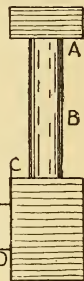
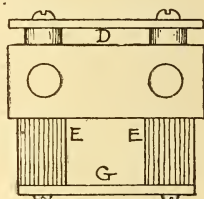
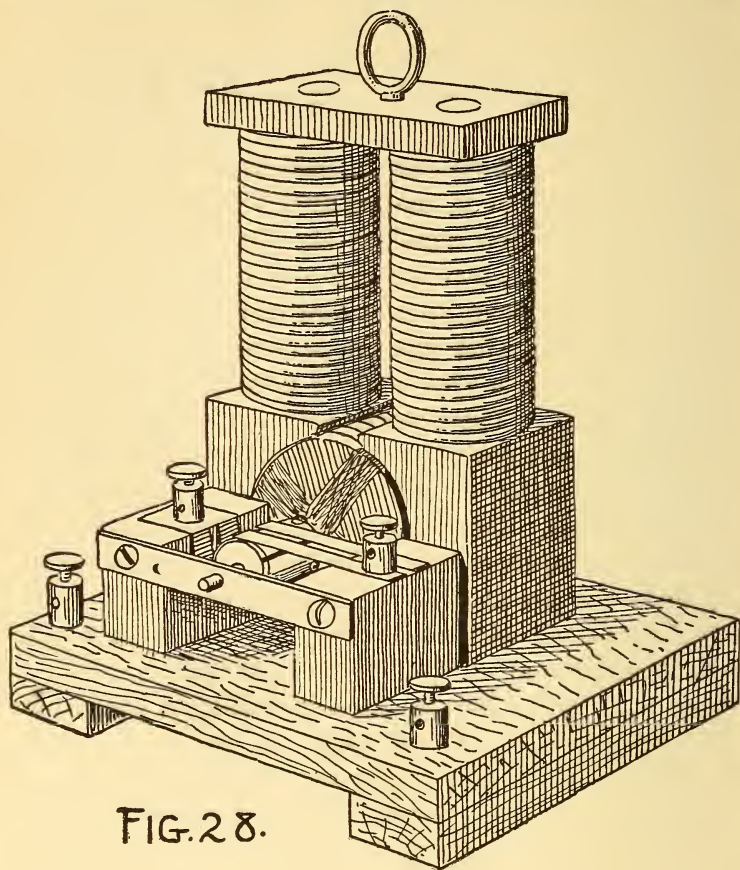
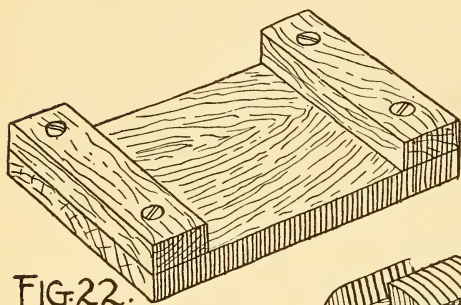

FIG. 20.
FIG. 21.
FIG. 28.
FIG. 22.
Figure 20 is an end view of the field-magnets showing the yoke at A, the core at B, the lug at C, and the bearing and binding-strip of yellow metal at D. Two blocks of hard-wood, an inch square and one inch and a half long, are cut and provided with holes, so that they can be fastened to the lugs C C with long, slim machine-screws, as shown at E E in Fig. 21. This is a view looking down on the magnets, blocks, and straps. These blocks are to support the brushes and terminals, and should be linked across the face with a brass strap G, so that the other end of the armature shaft may be supported. Care must be taken, when setting straps D and G, to have them line. The holes, too, must be centred, since the armature must revolve accurately within the field-lugs (C C) without touching them, and there is but one-sixteenth of an inch space between them.
From hard-wood half an inch in thickness cut a base, six by seven inches, and two strips an inch wide and five inches long. With glue and screws driven up from the underside of the strips fasten them to the base, as shown at Fig. 22. Then make the field-magnets fast to the base with long machine-screws, using washers under the heads at the underside of the base-board. The mounting should then appear as shown in Fig. 28.
of one inch and a half, as shown at Fig. 23. This is for the armature, and it should fit between D and G in Fig. 21, and should revolve easily in the holes cut to receive it in both straps, with not more than one-eighth of an inch play forward or backward. The long, projecting end should
serted from the back into the strip (G) in Fig. 21. Then the back strip (D) is screwed in place. The armature, when properly mounted, should revolve freely and easily within the field-lugs without friction, and the lugs must by no means touch the armature. From thin spring-copper brushes may be cut and mounted on the block under the binding-posts, so that one will rest on top of the commutators while the other presses up against the underside. The wiring is then to be placed on the field-magnets. This is carried out as described for the electric magnets on pages 54-58 of chapter iv., each core receiving five or seven layers, or as much as it will hold without overlapping the lug or yoke. The ends of the wires are connected as shown at Fig. 14 or Fig. 15, the ends being carried down through the base and up again in the right location to meet the foot of a binding-post. The complete dynamo will appear as shown in Fig. 28.